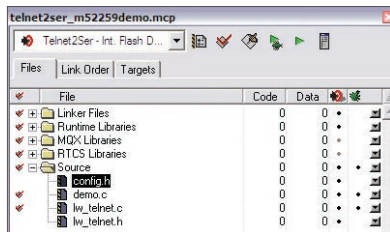

Figure 1: MQX source tree
- Open the **config.h** file in the CodeWarrior window as shown in Figure 1. Double click the file item located in the “Source” group in the CodeWarrior project tree.